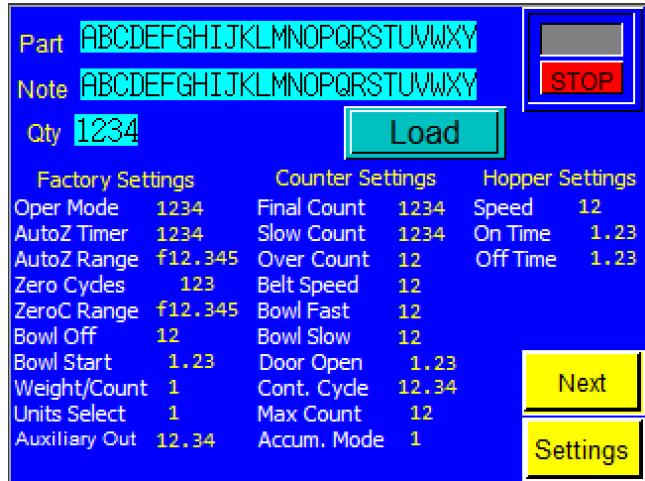

Figure 3-18
**Job Recall Function:** To recall a job that has already been saved, press the field that has your part number displayed. Then press the **View** button to display the settings. See Figure 3-18. From this screen, you can run / load the job by pressing the **Load** button.